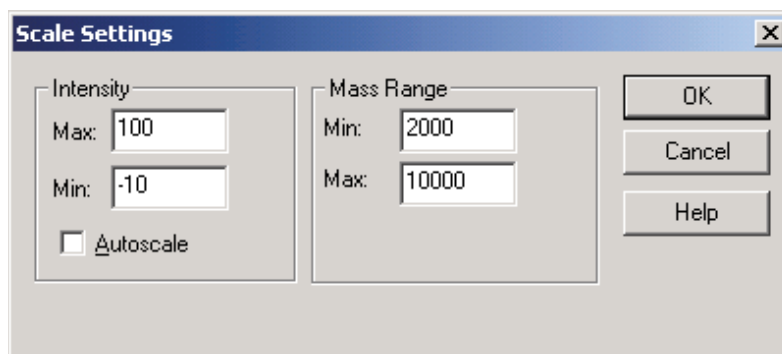

Figure 5-19: The **Scale Settings** dialog.
- To set the scale for one or more spectra, select the spectra and right click on one of the spectrum tags. Select **Scales...** from the popup menu. You may also select **Scales...** from the **Spectrum** menu. Use this option if you wish to view a group of spectra using the same intensity scale. The **Scale Settings** dialog will open (Figure 5-19). In the dialog, un-check **Autoscale** to view a group of spectra on the same intensity scale. You can use the **Intensity** and **Mass Range** options to manually adjust the scale.